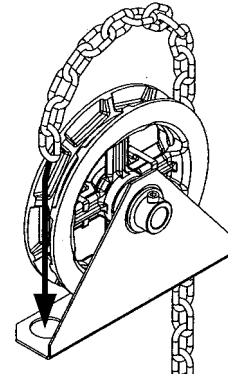

Figure 10 - Hand Chain Installation
1. Run the hand chain through the pocket wheel and through the chain guide, see Figure 10.